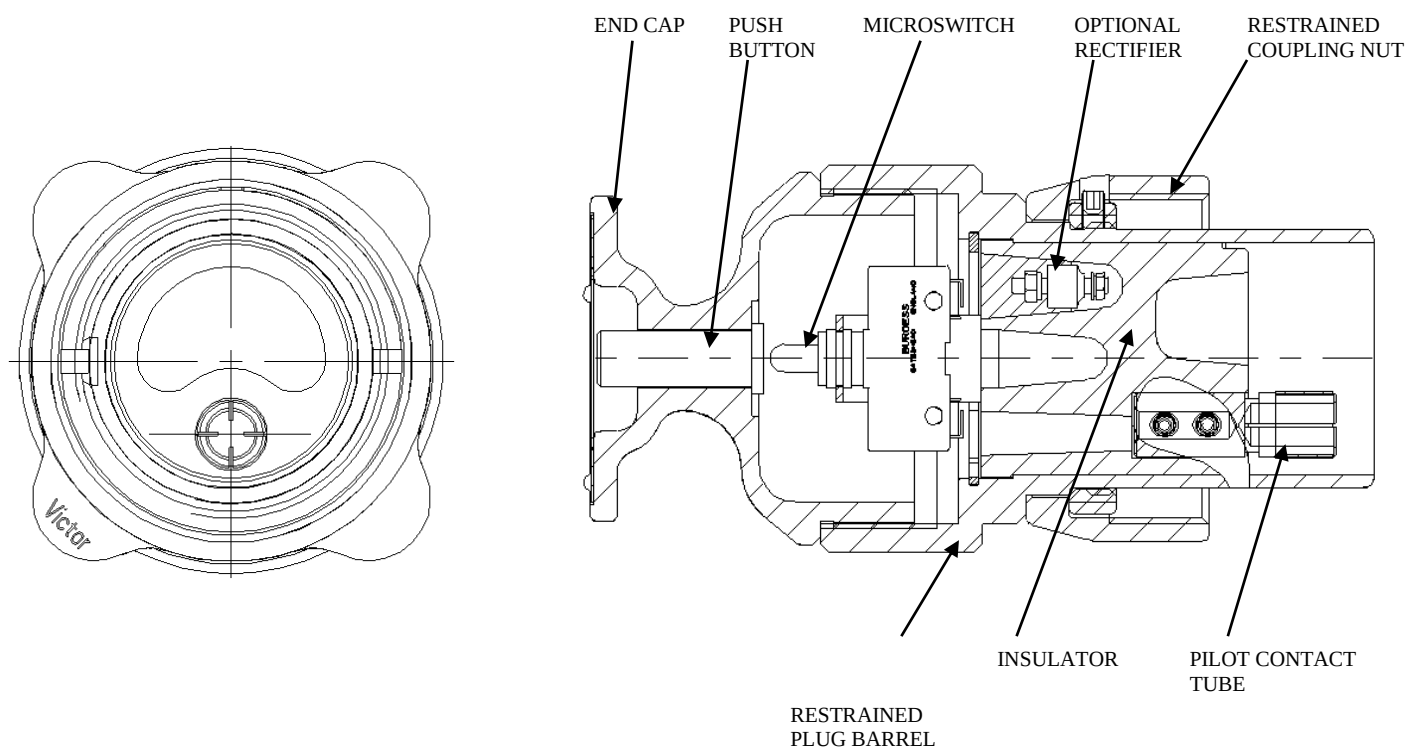

Fig.1 RESTRAINED TEST PLUG
2. Check the voltage mode that the test plug is to be used in. The test plug shown in Fig. 1 is assembled in 650 volts mode. For alternative voltages, the insulator can be rotated through 180°. This can be achieved by loosening the setscrew that locks the end cap into the restrained plug barrel. Unscrew the end cap from the restrained plug body. Using circlip pliers, remove the circlip and withdraw the insulator assembly. Rotate the insulator assembly through 180° and assemble in reverse order.